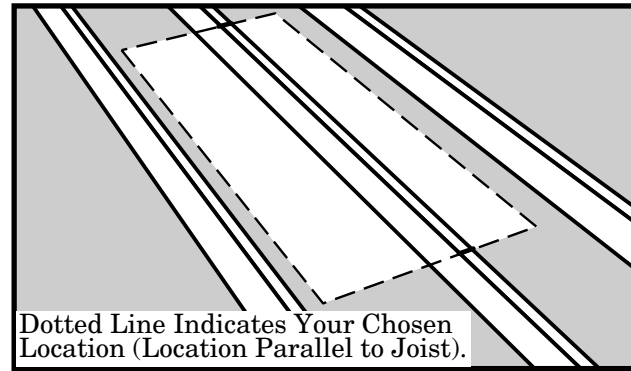

Figure 10
- (A) If the chosen location is parallel to the joists, mark the rough opening length on top of the joists as shown in Figure 10. Do not cut the joist at this mark.